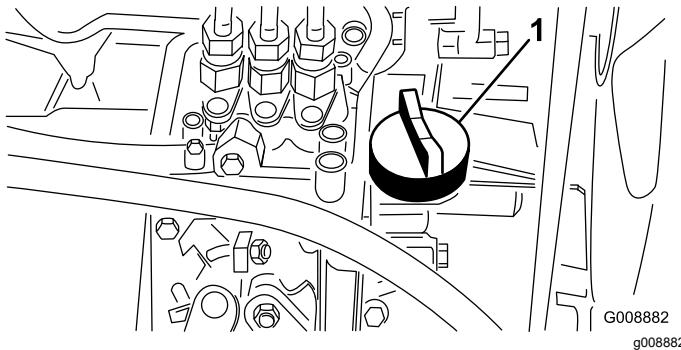

Figure 26
4. If the oil level is low, remove the oil-fill cap (Figure 26) and gradually add small quantities of oil, checking the level frequently, until the level reaches the Full mark on the dipstick.